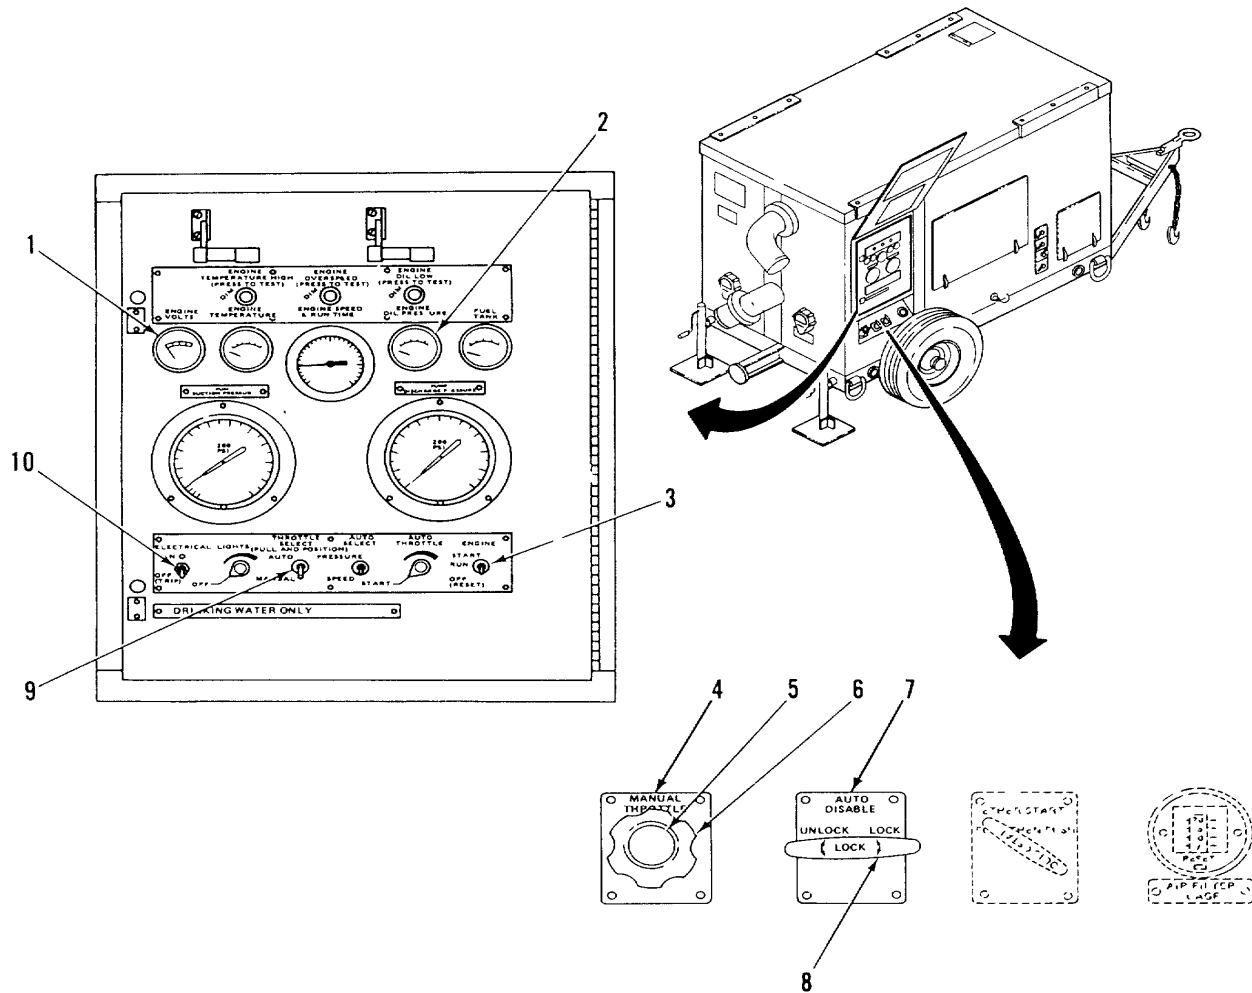

Figure 2-5. Manual Mode Operation
- a. Manual Mode Operation (Starting). Perform the following (Figure 2-5):
- (1) Set ELECTRICAL switch (10) to ON.
- (9) Check pump suction and discharge pressures. Shutdown engine if pump does not prime within 3 minutes. Refer to troubleshooting.
b. Manual Mode Operation (Shutdown). Perform the following (Figure 2-5):
- (1) Depress red button (5) to unlock MANUAL THROTTLE (4) and turn MANUAL THROTTLE knob (6) in to idle position